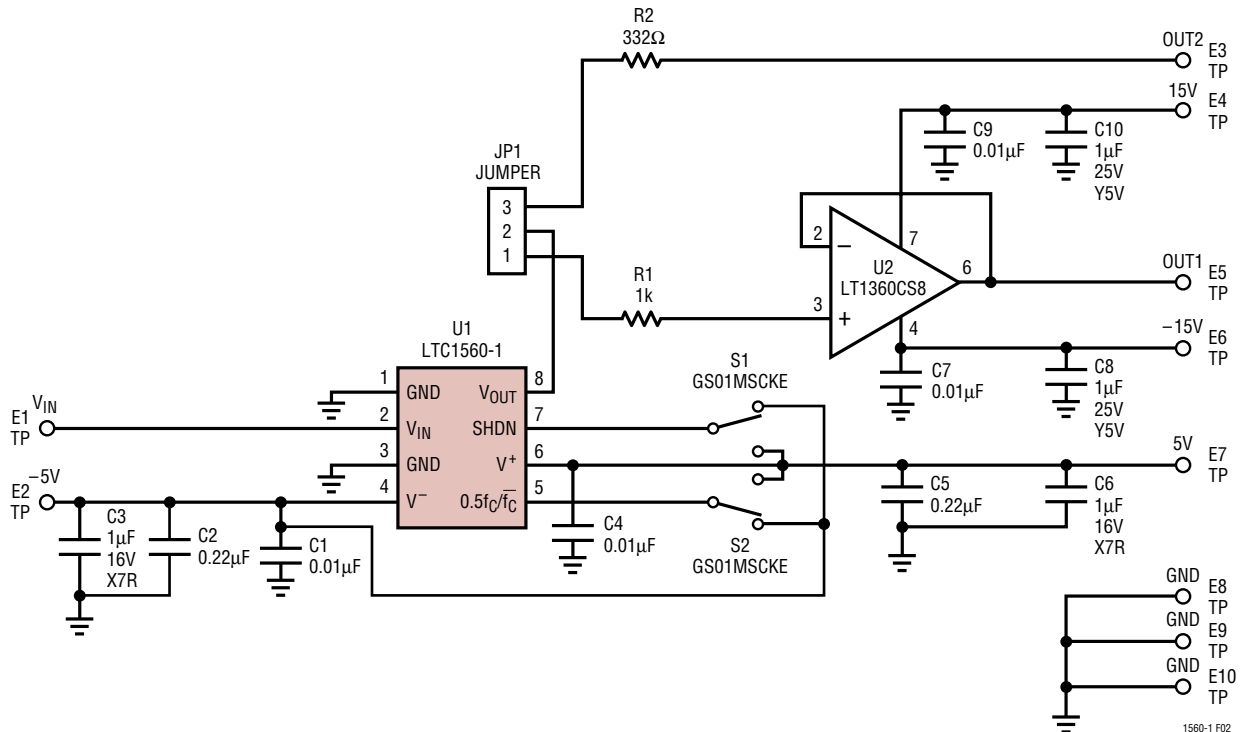

Figure 2. Demo Board 135A Connection Diagram
**Note 1:** To properly measure high frequency characteristics of the filter, a noninverting output buffer is recommended as shown on the demo boardconnection diagram, Figure 2. A small resistor (e.g. 100 $\Omega$ ) can also be used instead of the buffer to isolate any high capacitive load ( $C_L > 10pF$ ) from the filter output.**Note 2:** The stopband gain at 2.44MHz is guaranteed by design.
The performance of the LTC1560-1 can be easily evaluated by using demo board 135A which can be obtained through LTC marketing. Figure 2 shows the circuit connection of the LTC1560-1 in demo board 135A. The filter cutoff frequency can be switched via S2 and the power savings